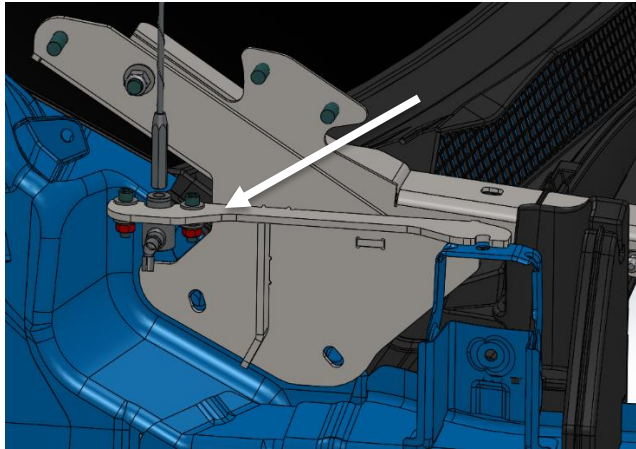

Figure 7
4. Install and fully tighten the antenna to the passenger side bracket using the provided 1/4"-20 hardware. **(Figure 7)**